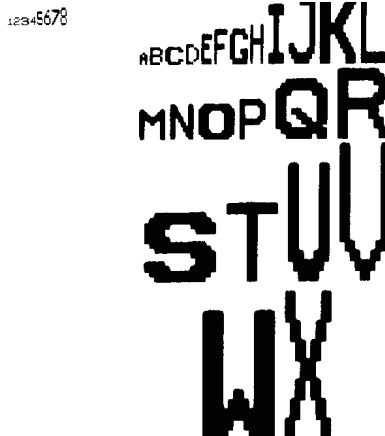

Figure 4.4 Available fonts
- Enter the font identification number (**A to X** and **1to8**), as illustrated in Figure 4.4, for the size of characters required before entering the text otherwise it will be printed in the default size **D**.